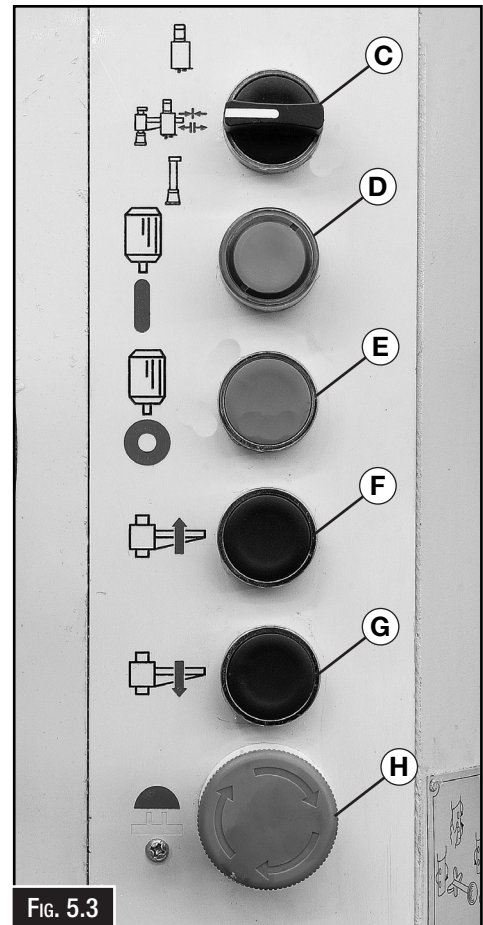

Fig. 5.3
- F. Column Up Button:** Moves the column up after the clamp button (B in Fig.5.3) is released.
- G. Column Down Button:** Moves the column down after the clamp button (B in Fig.5.3) is released.
Note: The Motor Head clamp must be released before it can be moved along the radial arm. (J in Fig: 5.3)